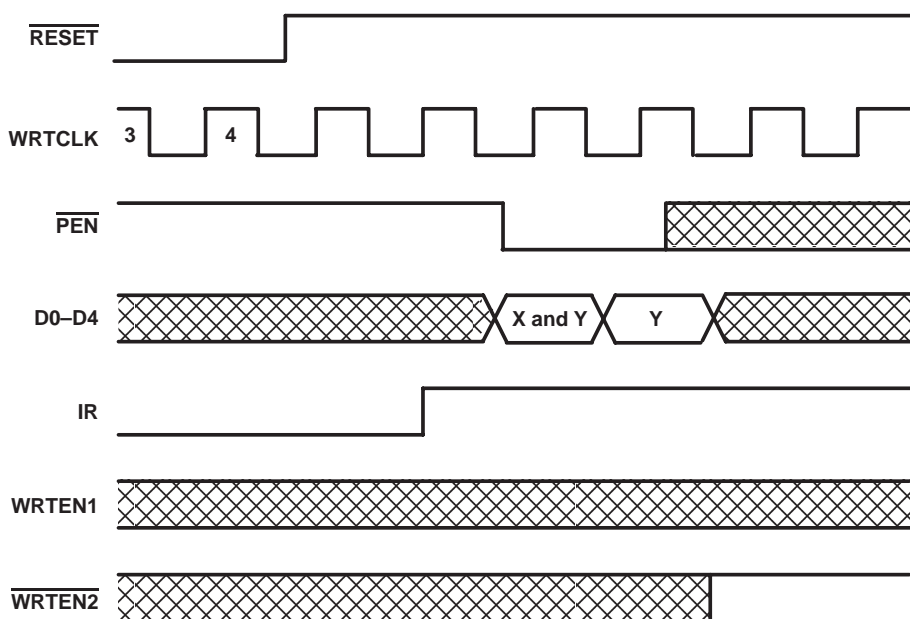

Figure 4. Programming X and Y Separately
Program enable ($\overline{\text{PEN}}$) should be held high throughout the reset cycle. $\overline{\text{PEN}}$ can be brought low only when IR is high and WRTCLK is low. On the following low-to-high transition of WRTCLK, the binary value on D0–D4 is stored as the AE offset value (X) and the AF offset value (Y). Holding $\overline{\text{PEN}}$ low for another low-to-high transition of WRTCLK reprograms Y to the binary value on D0–D4 at the time of the second WRTCLK low-to-high transition. When the offsets are being programmed, writes to the FIFO memory are disabled regardless of the state of the write enables ($\overline{\text{WRTEN1}}$, $\overline{\text{WRTEN2}}$). A maximum value of 31 can be programmed for either X or Y (see Figure 4). To use the default values of X = Y = 8, $\overline{\text{PEN}}$ must be held high.